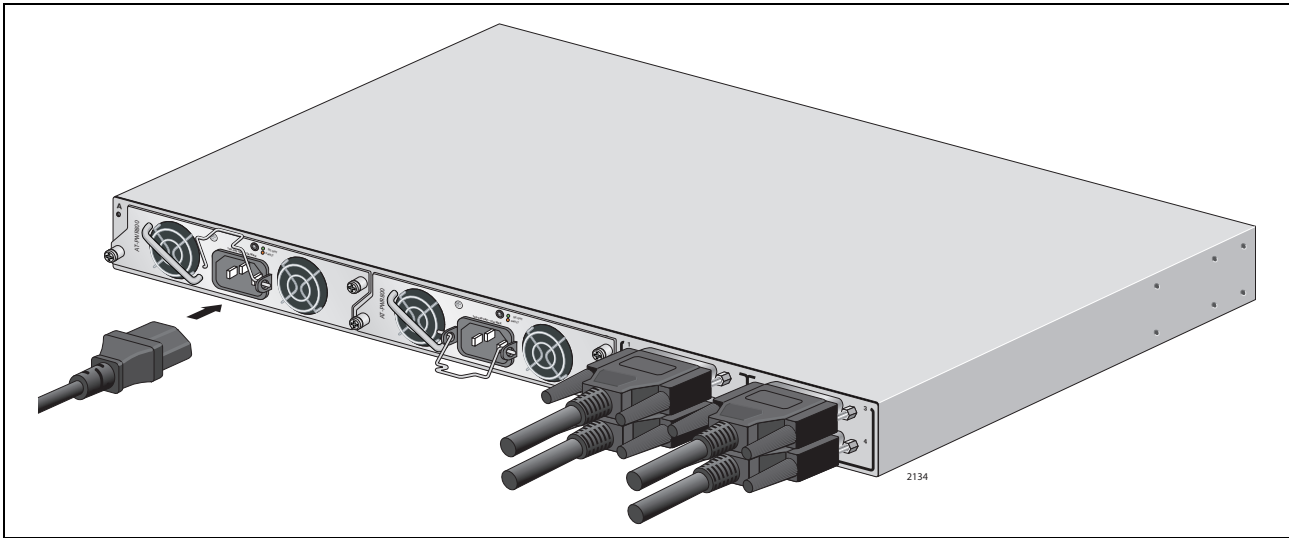

Figure 51. Connecting the AC Power Cord
2. Connect the AC power cord to the AC socket on the power supply module, as shown in Figure 51 on page 70.